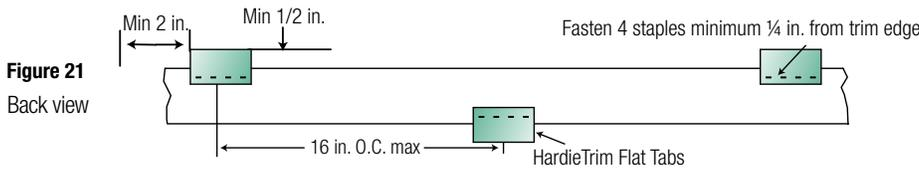

Figure 21
**Step 1:** Attach HardieTrim Flat Tabs to the back side of the trim using four, 18 ga. 1/2 in. L x 1/4 in. W narrow crown corrosion resistant staples, equally spaced in one row, positioned no closer than 1/2 in. from trim edges using a pneumatic staple gun. (figures 21, 22)
Terminate ends of the Band Board into Trim or Siding or miter cut the edges of the trim at the corners of the building. Place a HardieTrim Flat Tab at the end of each trim board and one tab every stud at a maximum of 16 in. O.C. The HardieTrim Flat Tabs should be attached to the trim in an alternating pattern to the top and bottom of the band board (figures 21, 22). Use 16 ga. galvanized 2 in. long finish nails to ensure proper fastening if needed.